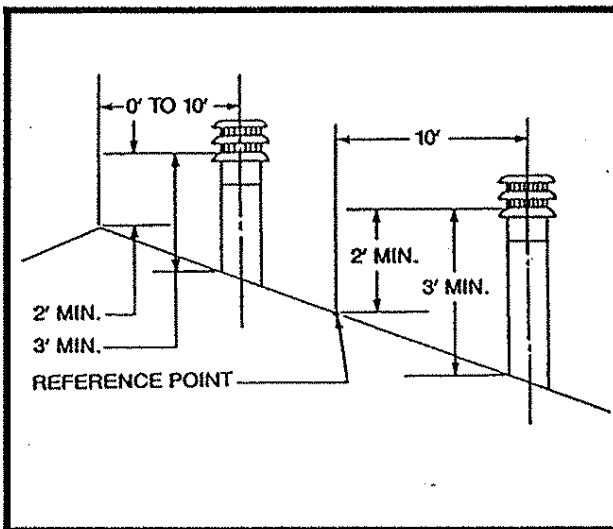

Fig. 13. Ten foot rule for chimney height.
Major U.S. building codes specify minimum chimney height above the roof top. These specifications are summarized in the Ten Foot Rule. (See Fig. 13.) The key points of this rule are:
2. If a horizontal distance from the center of the chimney to the peak of the roof is more than 10 feet, a chimney height reference point is established that is on the surface of the roof a distance of 10 feet from the center of the chimney in a horizontal plane. (See Fig. 13.) The top of the chimney must be at least 2 feet above this reference point, but never less than 3 feet in height above the highest point where it passes through the roof.